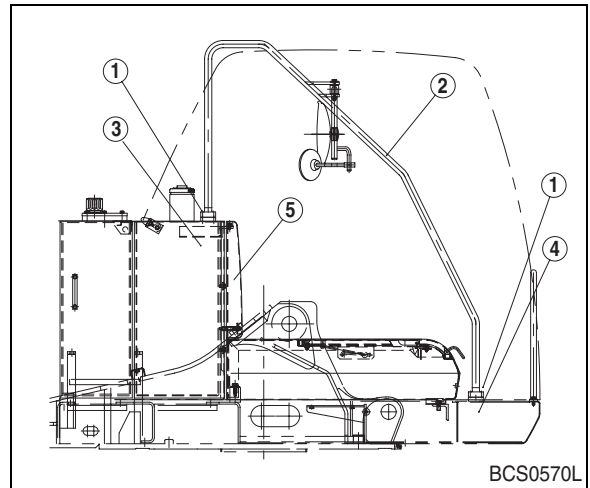

Figure 9
18. Remove eight bolts and washers (1, Figure 9), and handrail (2) from fuel tank (3) and frame (4).
19. Remove four bolts, washers and cover (5, Figure 9) from fuel tank (3).